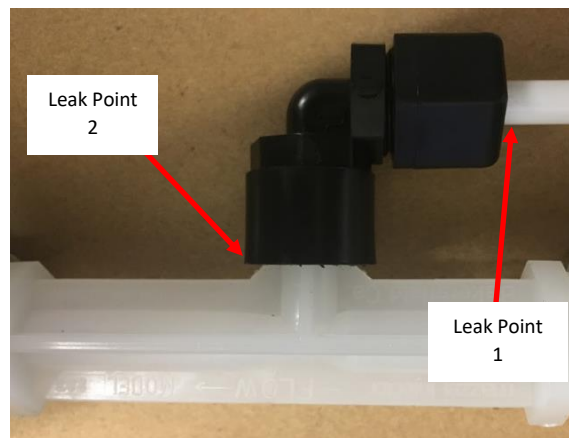

Figure 44: Leak Points in the Black Elbow Fitting Shown.
- c. **Black Elbow Fitting:** The Black Elbow Fitting can leak from two locations, the threaded joint and the compression joint. **See Figure 44.** If the Black Elbow is leaking, replace Nitro Tower Tubing Assembly. Refer to **Appendix I: Disassembling The Tower** to see how to disassemble and reassemble the Tower.